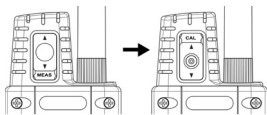

Figure 1
1. Switch the CO2 sensor to the "CAL" position as shown in Figure 1.